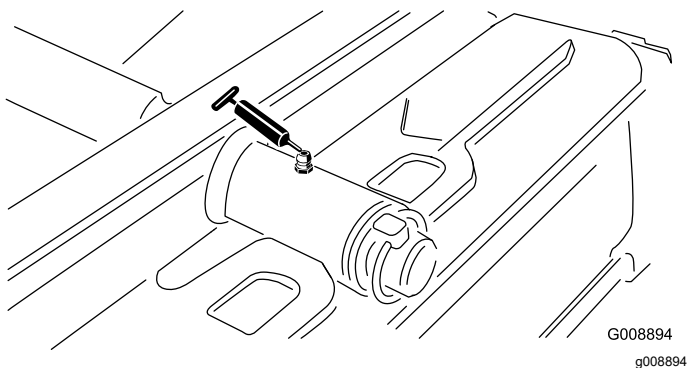

Figure 57
- Rear cutting unit pivot (Figure 57)